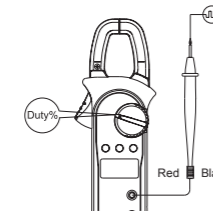

Figure 8
F. Measuring Duty Cycle (See Figure 8)